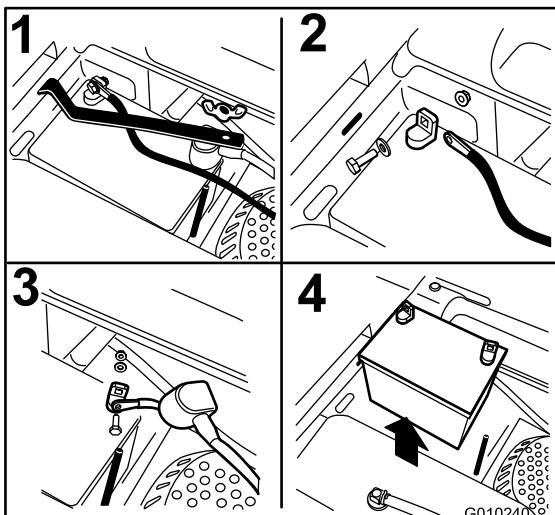

Figure 46
- Remove the wing nut securing the battery clamp (Figure 46).
- Remove the clamp (Figure 46).
- First disconnect the negative battery cable (black) from the negative (-)(black) battery terminal (Figure 46).
- Slide the red terminal boot off the positive (red) battery terminal and remove the positive (+)(red) battery cable (Figure 46).
1. Position battery in the tray with the terminal posts opposite from the fuel tank (Figure 46).
4. Secure the cables with 2 bolts, 2 washers, and 2 locknuts (Figure 46).
6. Install the clamp and secure it with the wing nut (Figure 46).